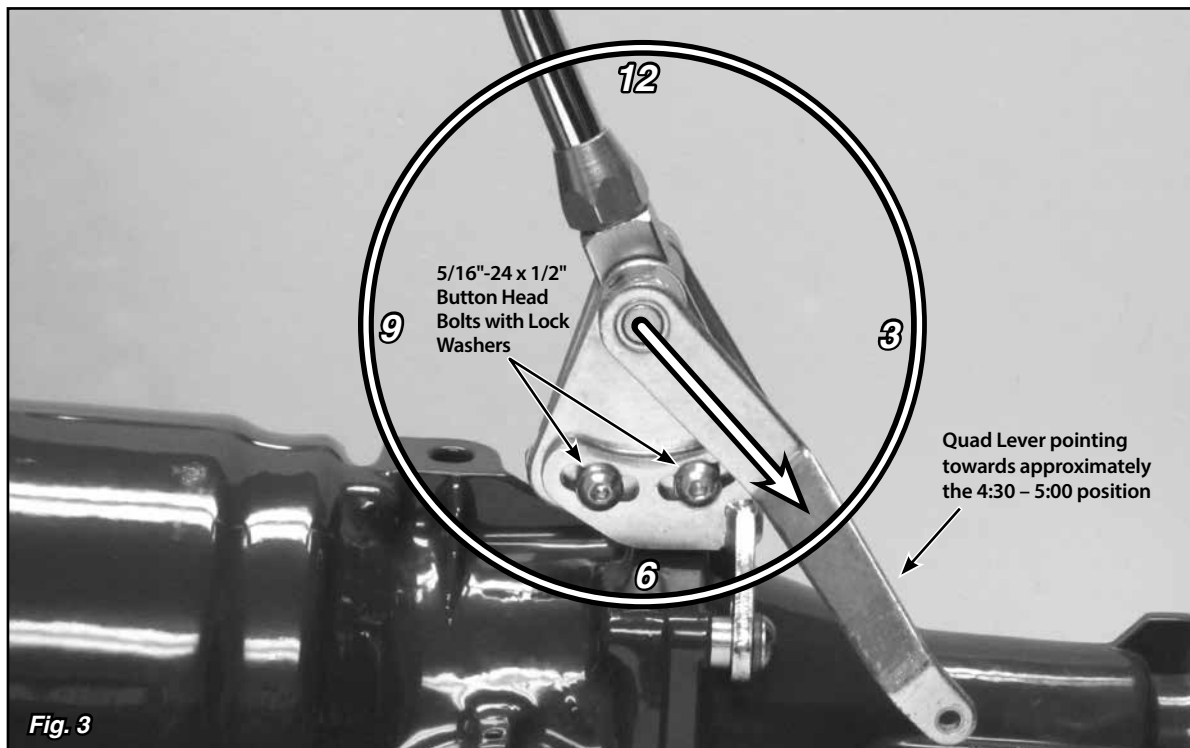

Fig. 3
**Step 5:** Insert the shifter assembly into the tailmount bracket so that the bolt holes line up with the curved, slotted holes in the welded banana brackets, and reinstall the 5/16"-24 x 1/2" button head bolts and lock washers. **Fig. 3**
**Step 7:** Make sure the two 5/16"-24 x 1/2" button head bolts and lock washers in the driver side of the shifter assembly on the welded banana bracket are tight. Move the Shifter through all the gear positions. Make sure that the shifter lever and knob do not come in contact with the dash or the seat. The shifter assembly can be tilted forward or backward if needed by loosening the 5/16"-24 x 1/2" button head bolts and lock washers in the welded banana bracket on the driver side. Be sure to re-tighten the bolts and lock washers in the welded banana bracket after adjusting the angle of the shifter assembly. **Fig. 3**
**Step 8:** Put the Shifter into the Park position and check the position of the quad lever. It will need to be pointing to about the 4:30 – 5:00 position. If it is not, loosen the set screw in the top of the quad lever with a 1/8" Allen wrench and slide the quad lever off of the shaft. Reposition it on the shaft at approximately the 4:30 – 5:00 position, and retighten the set screw. **Fig. 3**